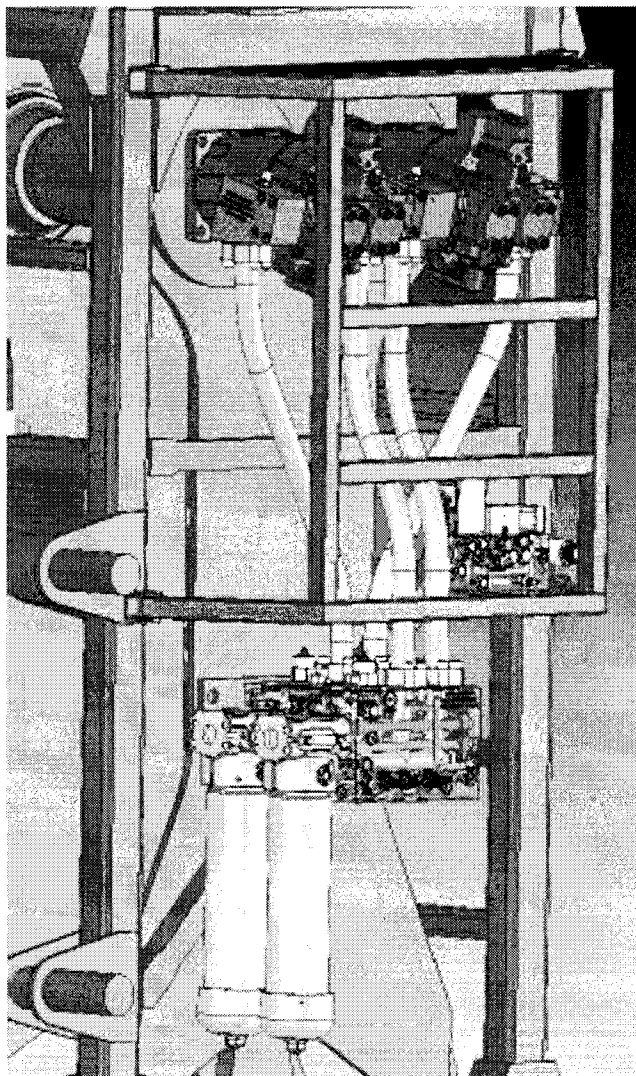

Figure 16
- the detailed description makes reference to Fig. 16 only in par. [0393], and without any reference to the elements in the figure;